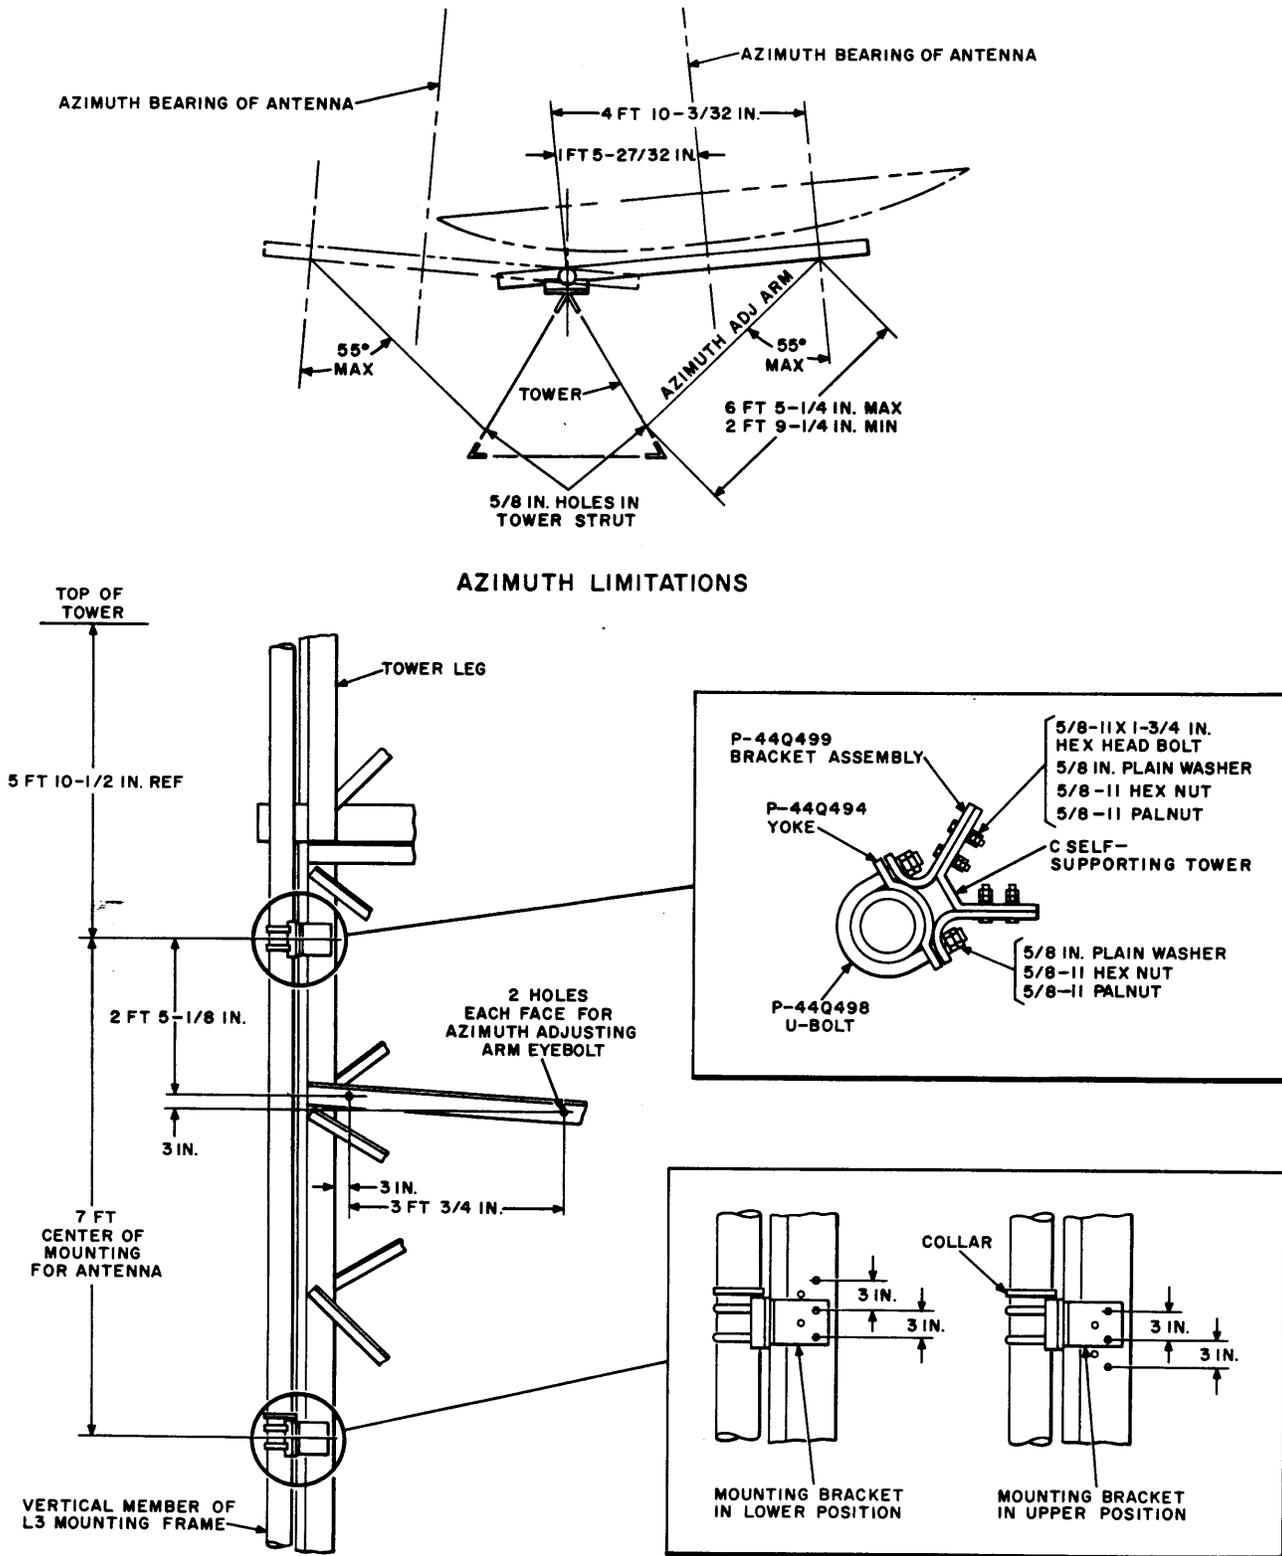

Fig. 11—Antenna Installation on AT-8013 C Self-Supporting Tower
5.22 All installation procedures are shown in Fig. 11. Determine the location of the P-44Q499 brackets. The brackets have an upper